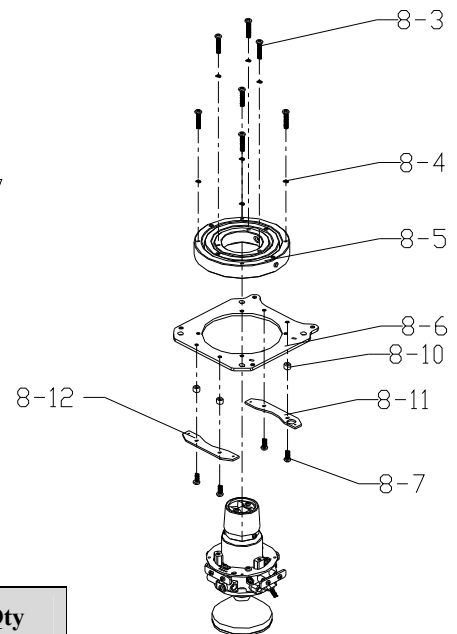

Figure 7
- Remove gimbal assembly (8-5#) from circuit board #8 (8-6#) by using a Phillips screwdriver to loosen the 7 crosshead plate screws M2.5×16(8-3#), as shown in figure 7.